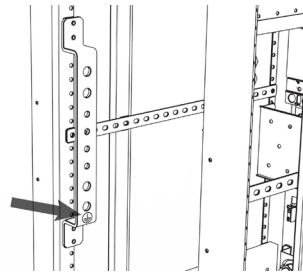

Figure 14. Ground bus bar
- Step 1.** Terminate the **AC MAINS INPUT** cables to Line 1 (**L1**), Line 2 (**L2**), Line 3 (**L3**) on Terminal Block 1 (**TB1**). See Figure 10. Terminate the Neutral (**N**) and Protective Earth (**PE**) conductors to their respective bus bars marked (**N**) and ⏏ (see Figures 14 and 15).
Step 2. Terminate GROUND connection to GROUND bar (see Figure 14).